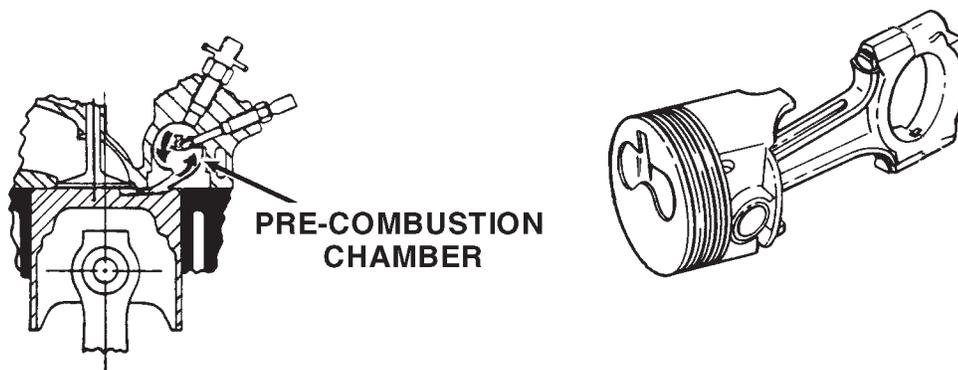

Figure 4-1. Pre-combustion Chamber and Piston Crown Shape.
A. GENERAL ENGINE DATA (Figure 4-1)